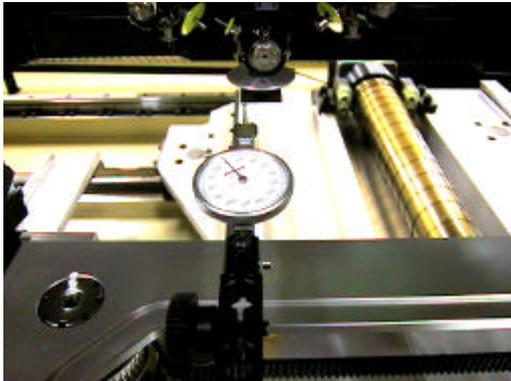

Figure 15
8. Set the dial gauge stand on the magnet stand and set the dial gauge tip to the horizontal flat edge of the jig, see figure 15:
15. To adjust Delta Q, loosen the delta Q positioning bolts (see figure 15) and use a 2.5mm allen wrench to turn the eccentric bolt in order to achieve a target value of: 0 +/- 50 (1/1000 deg.)